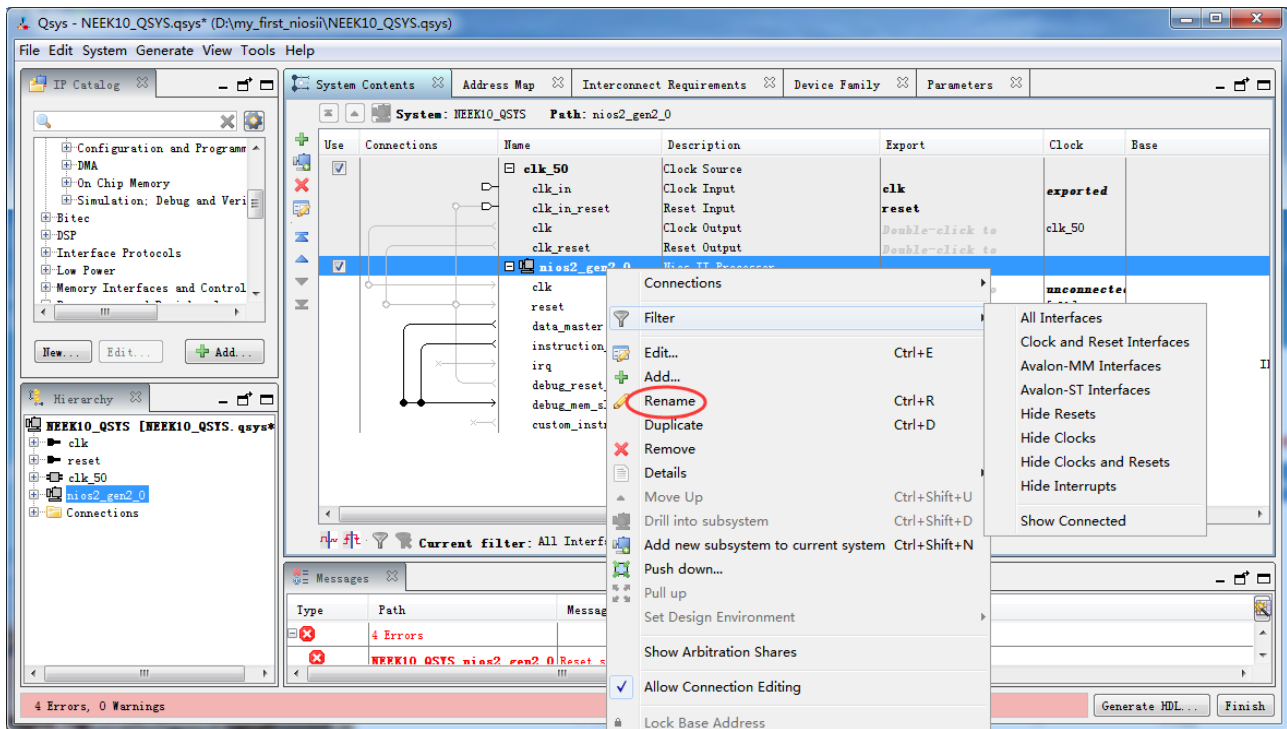
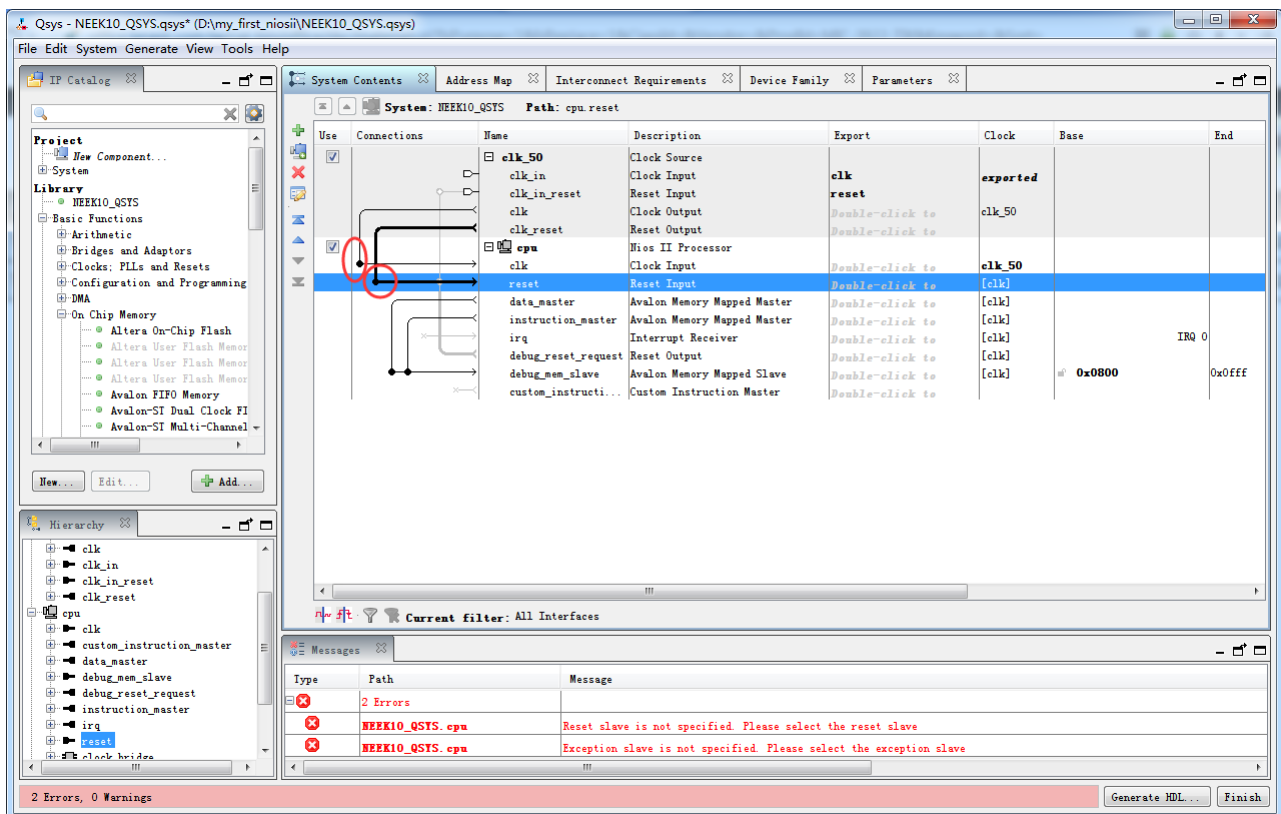

Figure 1-17 Rename the Nios II processor
Figure 1-18 Establish the connection of clk and reset
10. Right-click on **nios2_gen2_0** and choose **rename**, as shown in Figure 1-17. Rename the Nios II processor to **cpu**. Connect its **clk** and **reset** to the **clk** and **clk_reset** of **clk_50**, as shown in Figure 1-18.